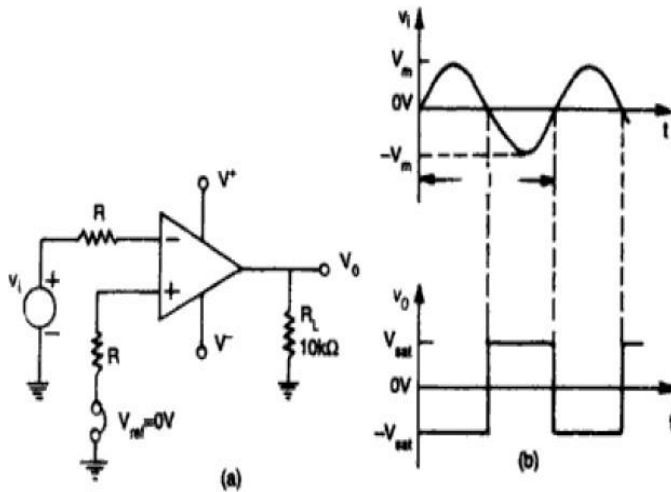

Fig. 5.4 (a) Zero crossing detector (b) Input and output waveforms
- The basic comparators either non-inverting or inverting can be used as a zero crossing detector provided that V_{ref} is set to zero. An inverting zero-crossing detector is shown in figure 5.4 (a).